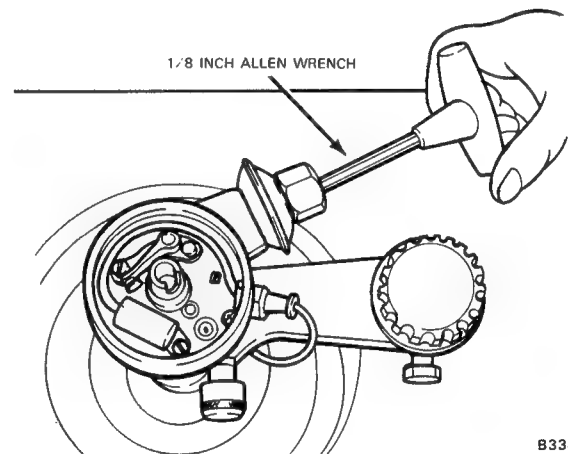

FIG. 11 Adjusting Vacuum Advance
4. If the advance is incorrect, turn the allen head screw clockwise to increase the vacuum advance and counterclockwise to decrease it (Fig. 11).